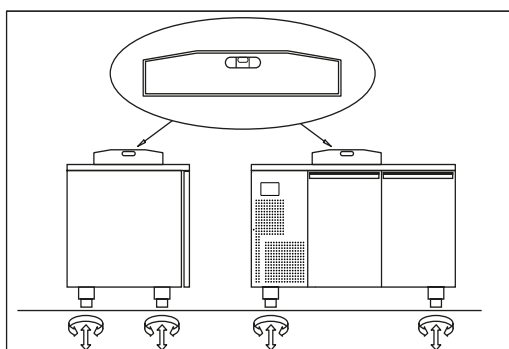

Fig.5
- position the refrigerated table using a level with possible adjustment of the feet of the metal base (Fig. 5)
- position the refrigerated table as described above (Fig. 5)
- position the machine in the same way as described for the refrigerated tables (Fig. 5)
14.4 Split Pizzeria REFRIGERATED TABLES (Fig. 5 and 7.1)